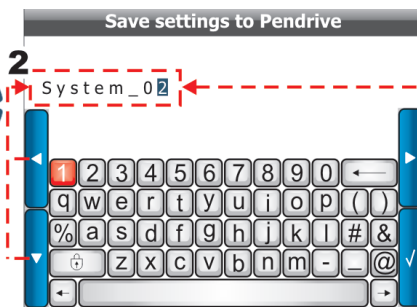

Fig. 77
- 2 Enter file name using keys shown in Fig. 77, as described in par. 6.3 - Using the programming keys;